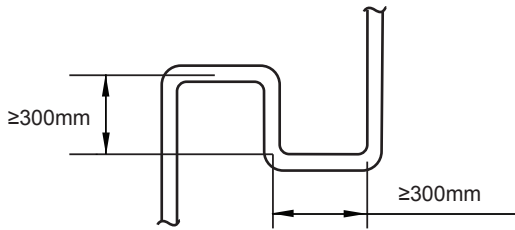

Figure 4.3
- When the outdoor unit is above the indoor unit, and the level difference exceeds 20 m, it is recommended that an oil return bend be set up at every 10 m interval on the gas pipe of the main piping. The recommended specifications of the oil return bend are as shown in figure 4.3.
- Requirement 3:** The largest level difference between indoor unit and outdoor unit should not exceed 90m (if the outdoor unit is above) or 110m (if the outdoor unit is below). Additionally: (i) If the outdoor unit is above and the level difference is greater than 20m, it is recommended that an oil return bend with dimensions as specified in Figure 4.3 is set every 10m in the gas pipe of the main pipe; and (ii) if the outdoor unit is below and the level difference is more than 40m, the liquid pipe of the main pipe (L1) should be increased one size.